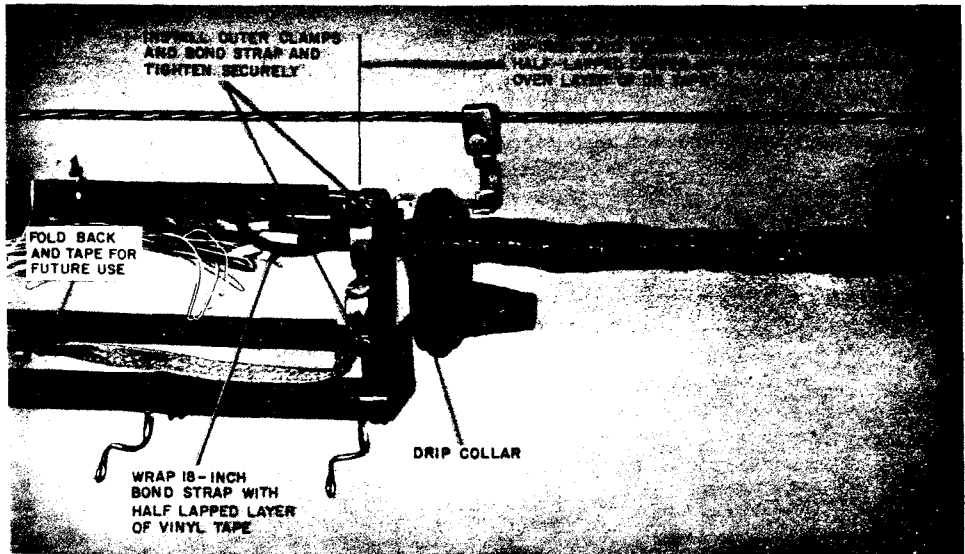

Fig. 10—Completed Installation—Severe Pull-out (Cover Removed)
- (9) Wrap bond clamp, bond strap, and cable with DR tape and vinyl tape. Form drip collars between sheath clamp and nipple. Fit nipple around cable and bond strap. Install outer sheath clamps (top and bottom) as spacers, and bond strap. Tighten securely (Fig. 10).